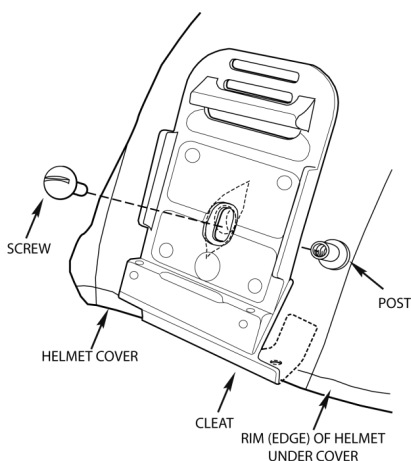

Figure 4. Old ACH NVG Bracket Installation.
- a. For the black (old) ACH bracket, insert the threaded post from inside the helmet (Figure 4).